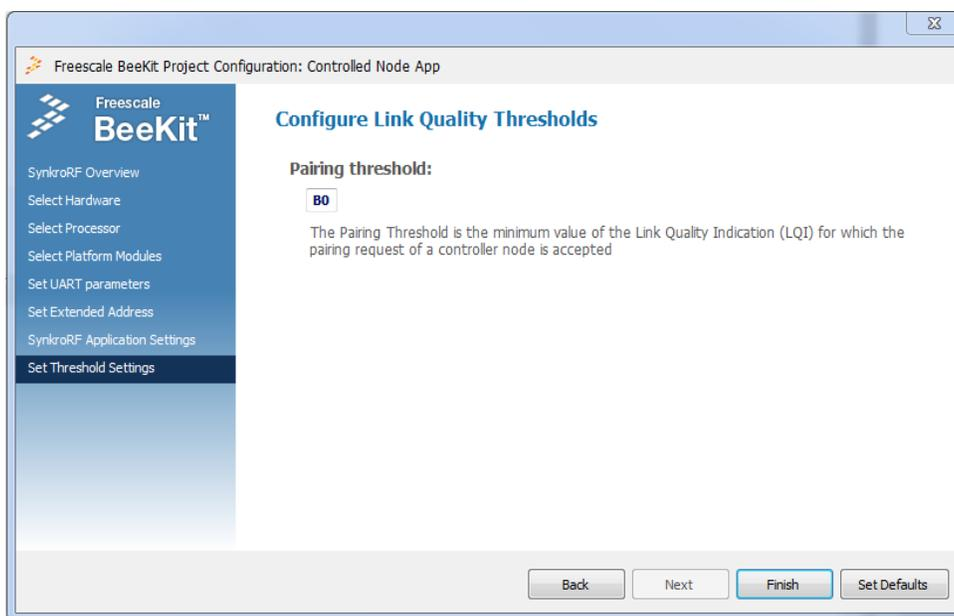

Figure 2-11. Pairing Threshold configuration window
4. Repeat the steps as described in Section 2.1.1, “Basic Options” and Section 2.1.2, “Custom Configuration Options”. Adjust the settings to suit the application. Notice that the current settings for the switches for the controlled node are different than those for the controller node. In particular, the cloning threshold configuration screen is replaced with the pairing threshold configuration screen, as shown in shown in Figure 2-11.